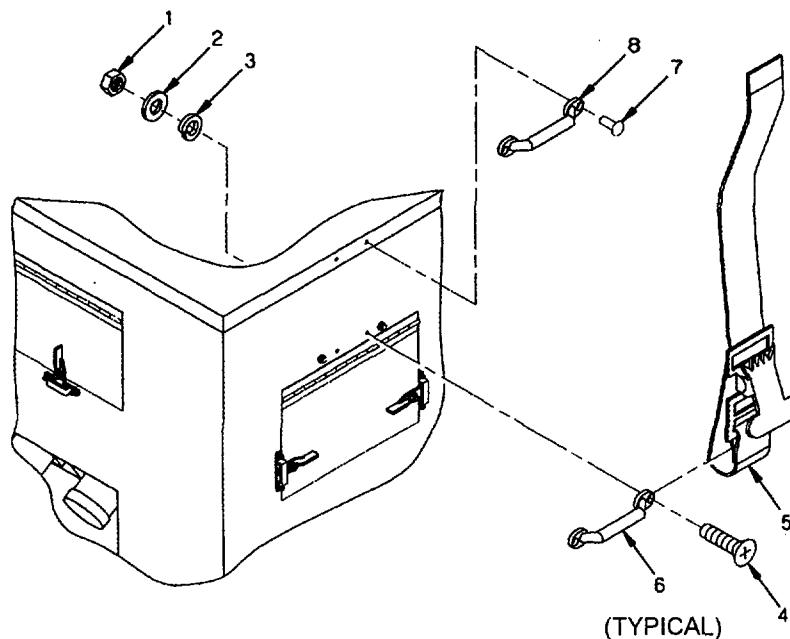

Figure 4-8. Switch Box Strap Assembly Replacement
2. Remove two nuts (1, figure 4-8), flat washers (2), lock washers (3), and screws (4) that secure strap (5), and loop (6) assembly to switch box.
3. Remove strap (5) and loop (6) assembly.
4. Drill out rivets (7) securing loop (8) to cover.